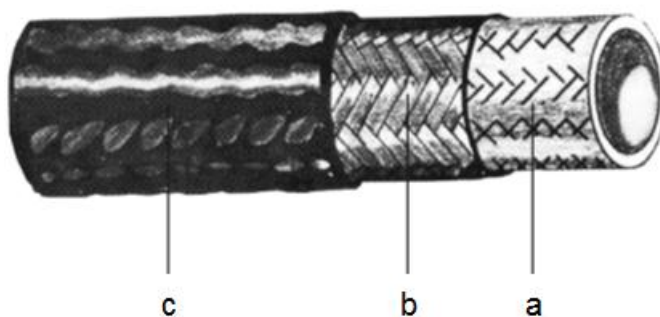

FIG 1.
- B. Hydraulic hoses consist of the following: (Fig 1)